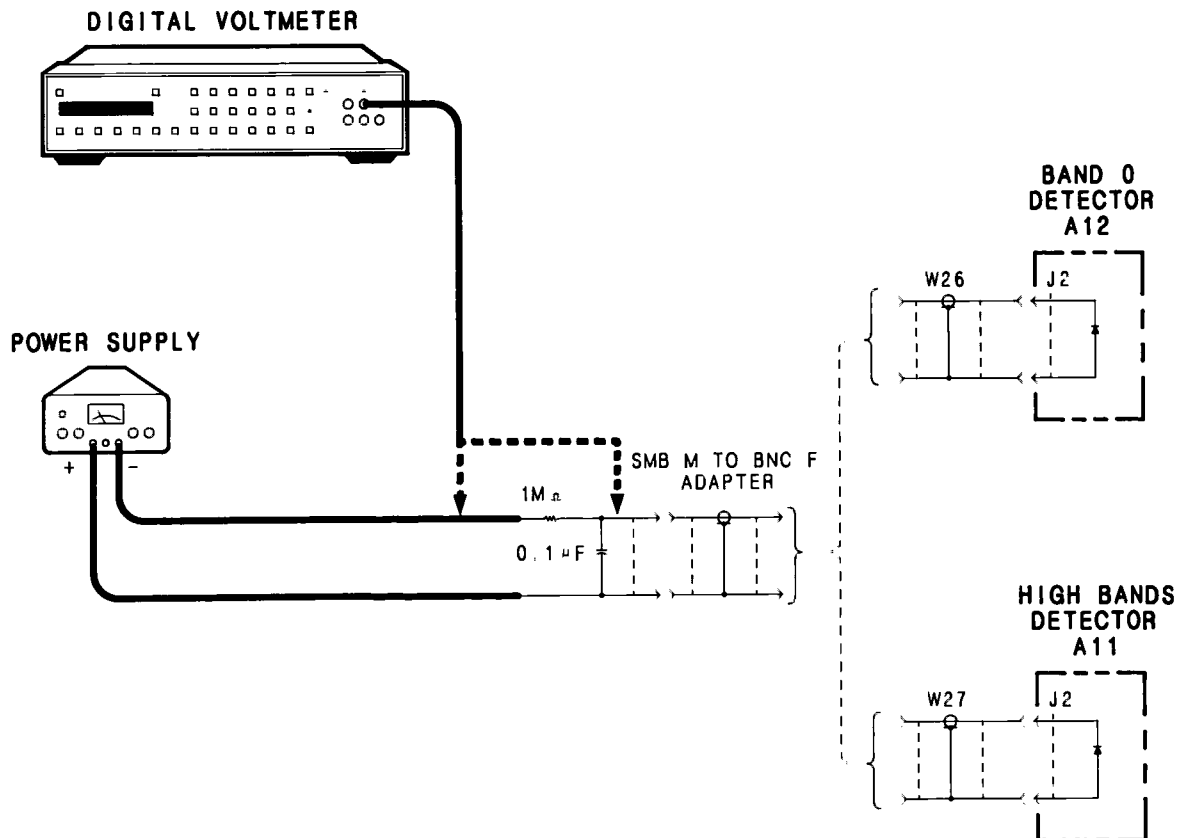

Figure 5-45. Logger Temperature Compensation Test Setup
5. Connect the test equipment as shown in Figure 5-45 with cable W27 connector connected to an SMB-to-BNC adapter.
6. Connect the DVM across the output terminals of the Power Supply and adjust the power supply output for 5.00 ± 0.01 Vdc. Move the DVM connections back to the SMB-to-BNC adapter as shown in Figure 5-45
10. Disconnect the high band detector A11 cable W27 from the SMB-to-BNC adapter and connect the low band detector A12 cable W26 to the adapter as shown in Figure 5-45.
11. Connect the DVM at the output of the Power Supply and check that the output is still at 5.00 ± 0.01 Vdc. Move the DVM connections back to the SMB-to-BNC adapter as shown in Figure 5-45.